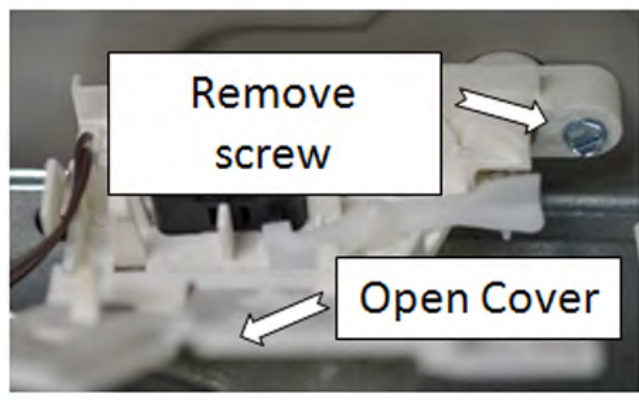

Figure 3
2. Open Cover and remove 1/4" hex head screw, see figure 3.